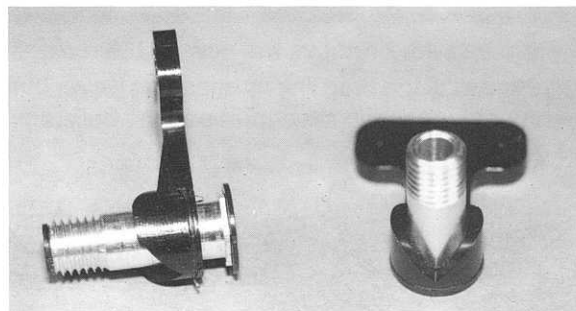

Fig. 25
□ **Fig. 25 & 26** 1) Take out the #9157 servo saver spring and the #9157 aluminum spring adjusting nut from bag #8-2. 2) Now remove the lower left servo saver arm from the parts tree. 3) Before we install the lower servo saver arm over the aluminum tube, look at the bottom of the arm. You will find a recessed hex shaped area that will match up with the hex portion at the bottom of the aluminum tube. Slide the lower servo saver arm over the aluminum tube and push it down until the tube hex fits into the hex shaped recess. 4) Next we need to remove the upper servo saver arm. Install it over the tube with the "V" shaped portion facing down into the "V" groove of the lower arm. Make sure the upper arm is facing to the right (with the lower arm facing away from you) as shown in the photo. **Racer's Tip: Team drivers coat the V-groove portion of the servo saver with a small amount of the #6588 black grease**